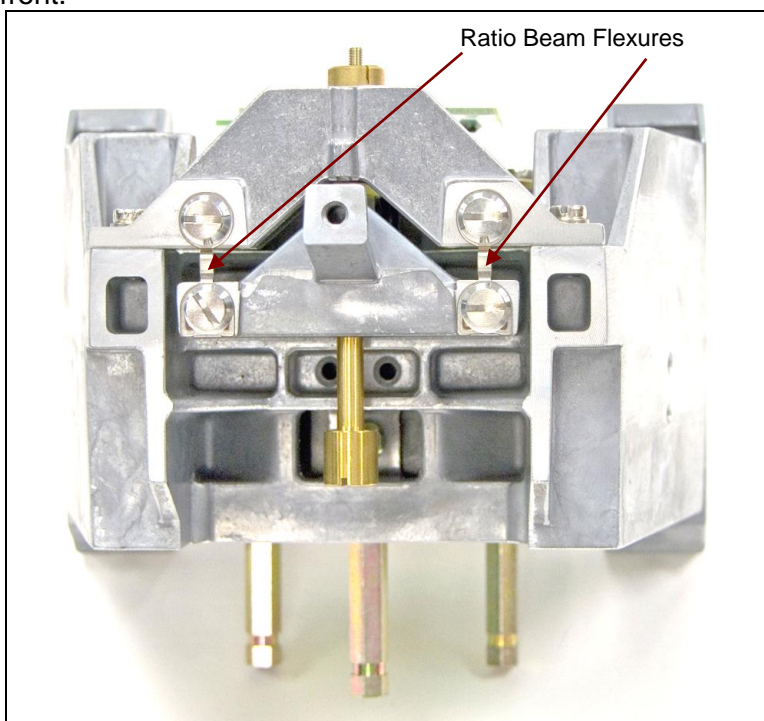

Figure 3-65. Yoke aligned with frame side-to-side, and flush with frame on front.
5. Tighten the screws on each side of the yoke (shown in Figure 3-65) when the Ratio Beam is centered. Re-check movement.
12. Insert the 2 screws on either side of the Magnet Cover, as in Figure 3-65.